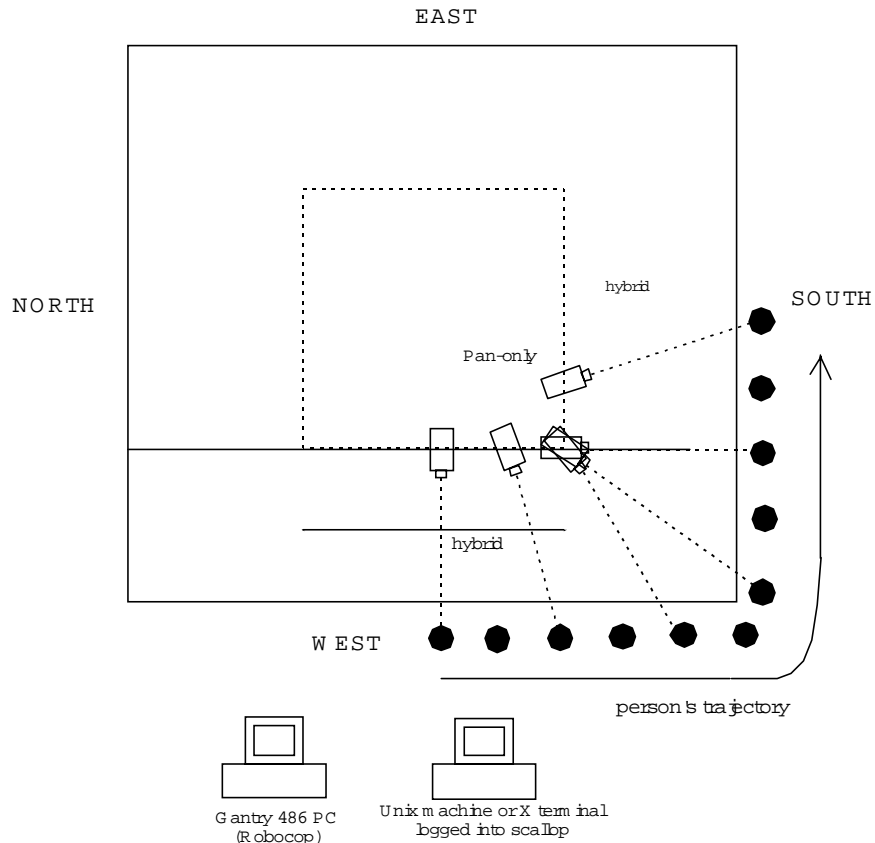

Figure 1: Top view of gantry workspace. Room's south side points to Uris Hall
The 5-DOF ceiling-mounted gantry robot can track a person walking around the gantry's workspace, as shown in Figure 1. The demo is a seven-step procedure:
2. Orient the camera with the PTU to point West (see Figure 1 for Cardinal points).
The gantry's primary home position is in the Northwest corner (see Figure 1). Before homing, Atanas says to perform the following step: move the gantry with the teach pendant to at least 1 meter (3 feet) Southeast of the Northwest corner and then under **FASTTERM** type:
The gantry should begin slowly homing. For people tracking, a secondary home position was defined and lies appropriately halfway between the North and South sides of the gantry as shown in Figure 1. Under **FASTTERM**, one can load and execute the secondary home program:
Pan position, **pp-1750** and tilt position, **tp0**, orients the camera's optical axis West as shown in Figure 1. Atanas also suggests that if `pp-1750` does not pan the camera to point Eastwardly then to type **r**, which resets the PTU.